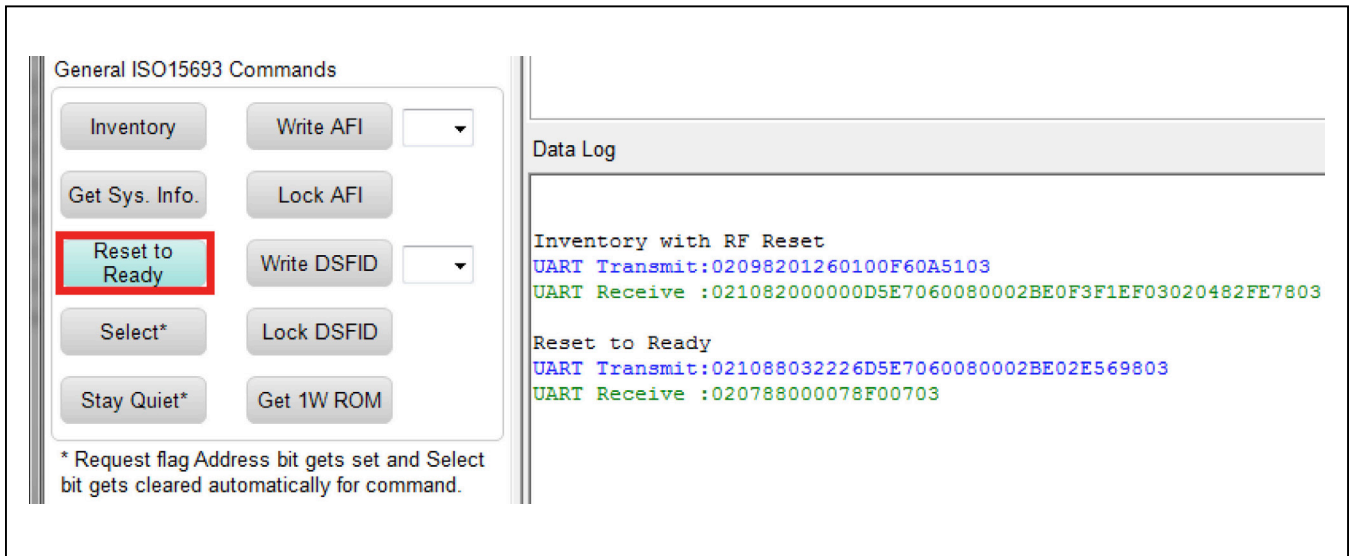

Figure 40. Ready to Reset Button
- 3) Click on the **Reset to Ready** button in the **General ISO 15693 Commands** group box (Figure 40).